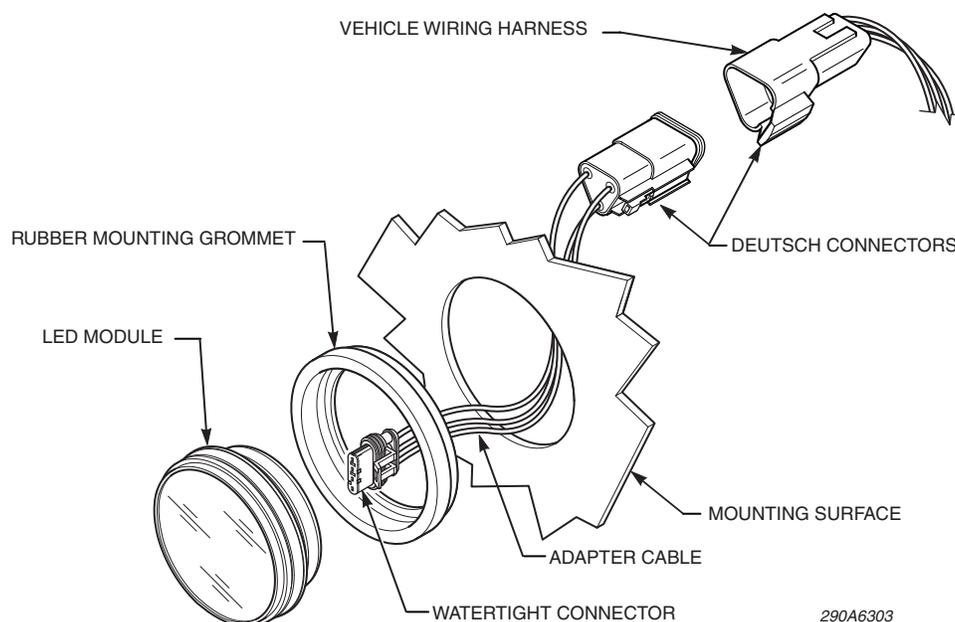

Figure 1: Connection between LED module and vehicle wiring harness
2. Connect the adapter cable to the vehicle wiring harness (Figure 1 on page 3). See Table 1 for an explanation of the adapter cable colors, and for their functions and locations on the Deutsch connector.